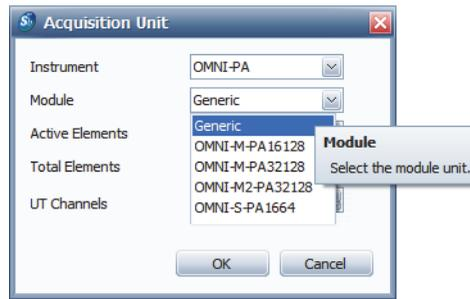

Figure 7-4 The Acquisition Unit dialog box
3. In the **Module** list, select the module unit (see Figure 7-4 on page 68).